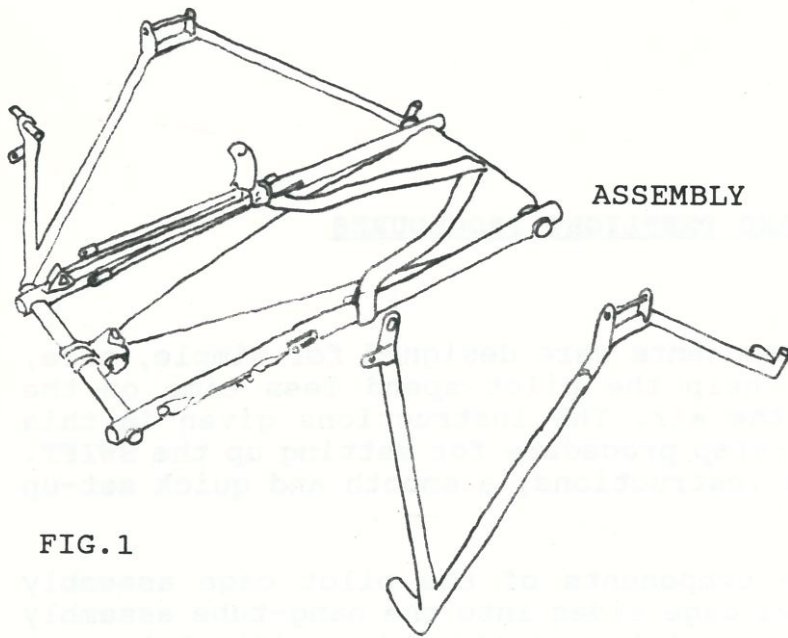
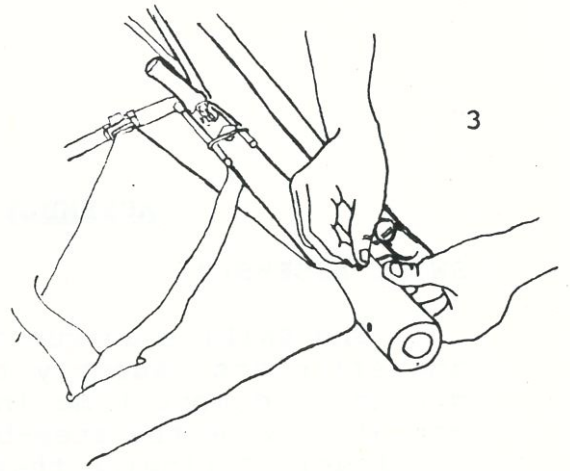

FIG. 1
FIG. 1a
1. Begin by removing the components of the pilot cage assembly from the box. Plug the steel cage sides into the hang-tube assembly (fig.1), pinning only the rear tubes at this stage.(fig.1a)